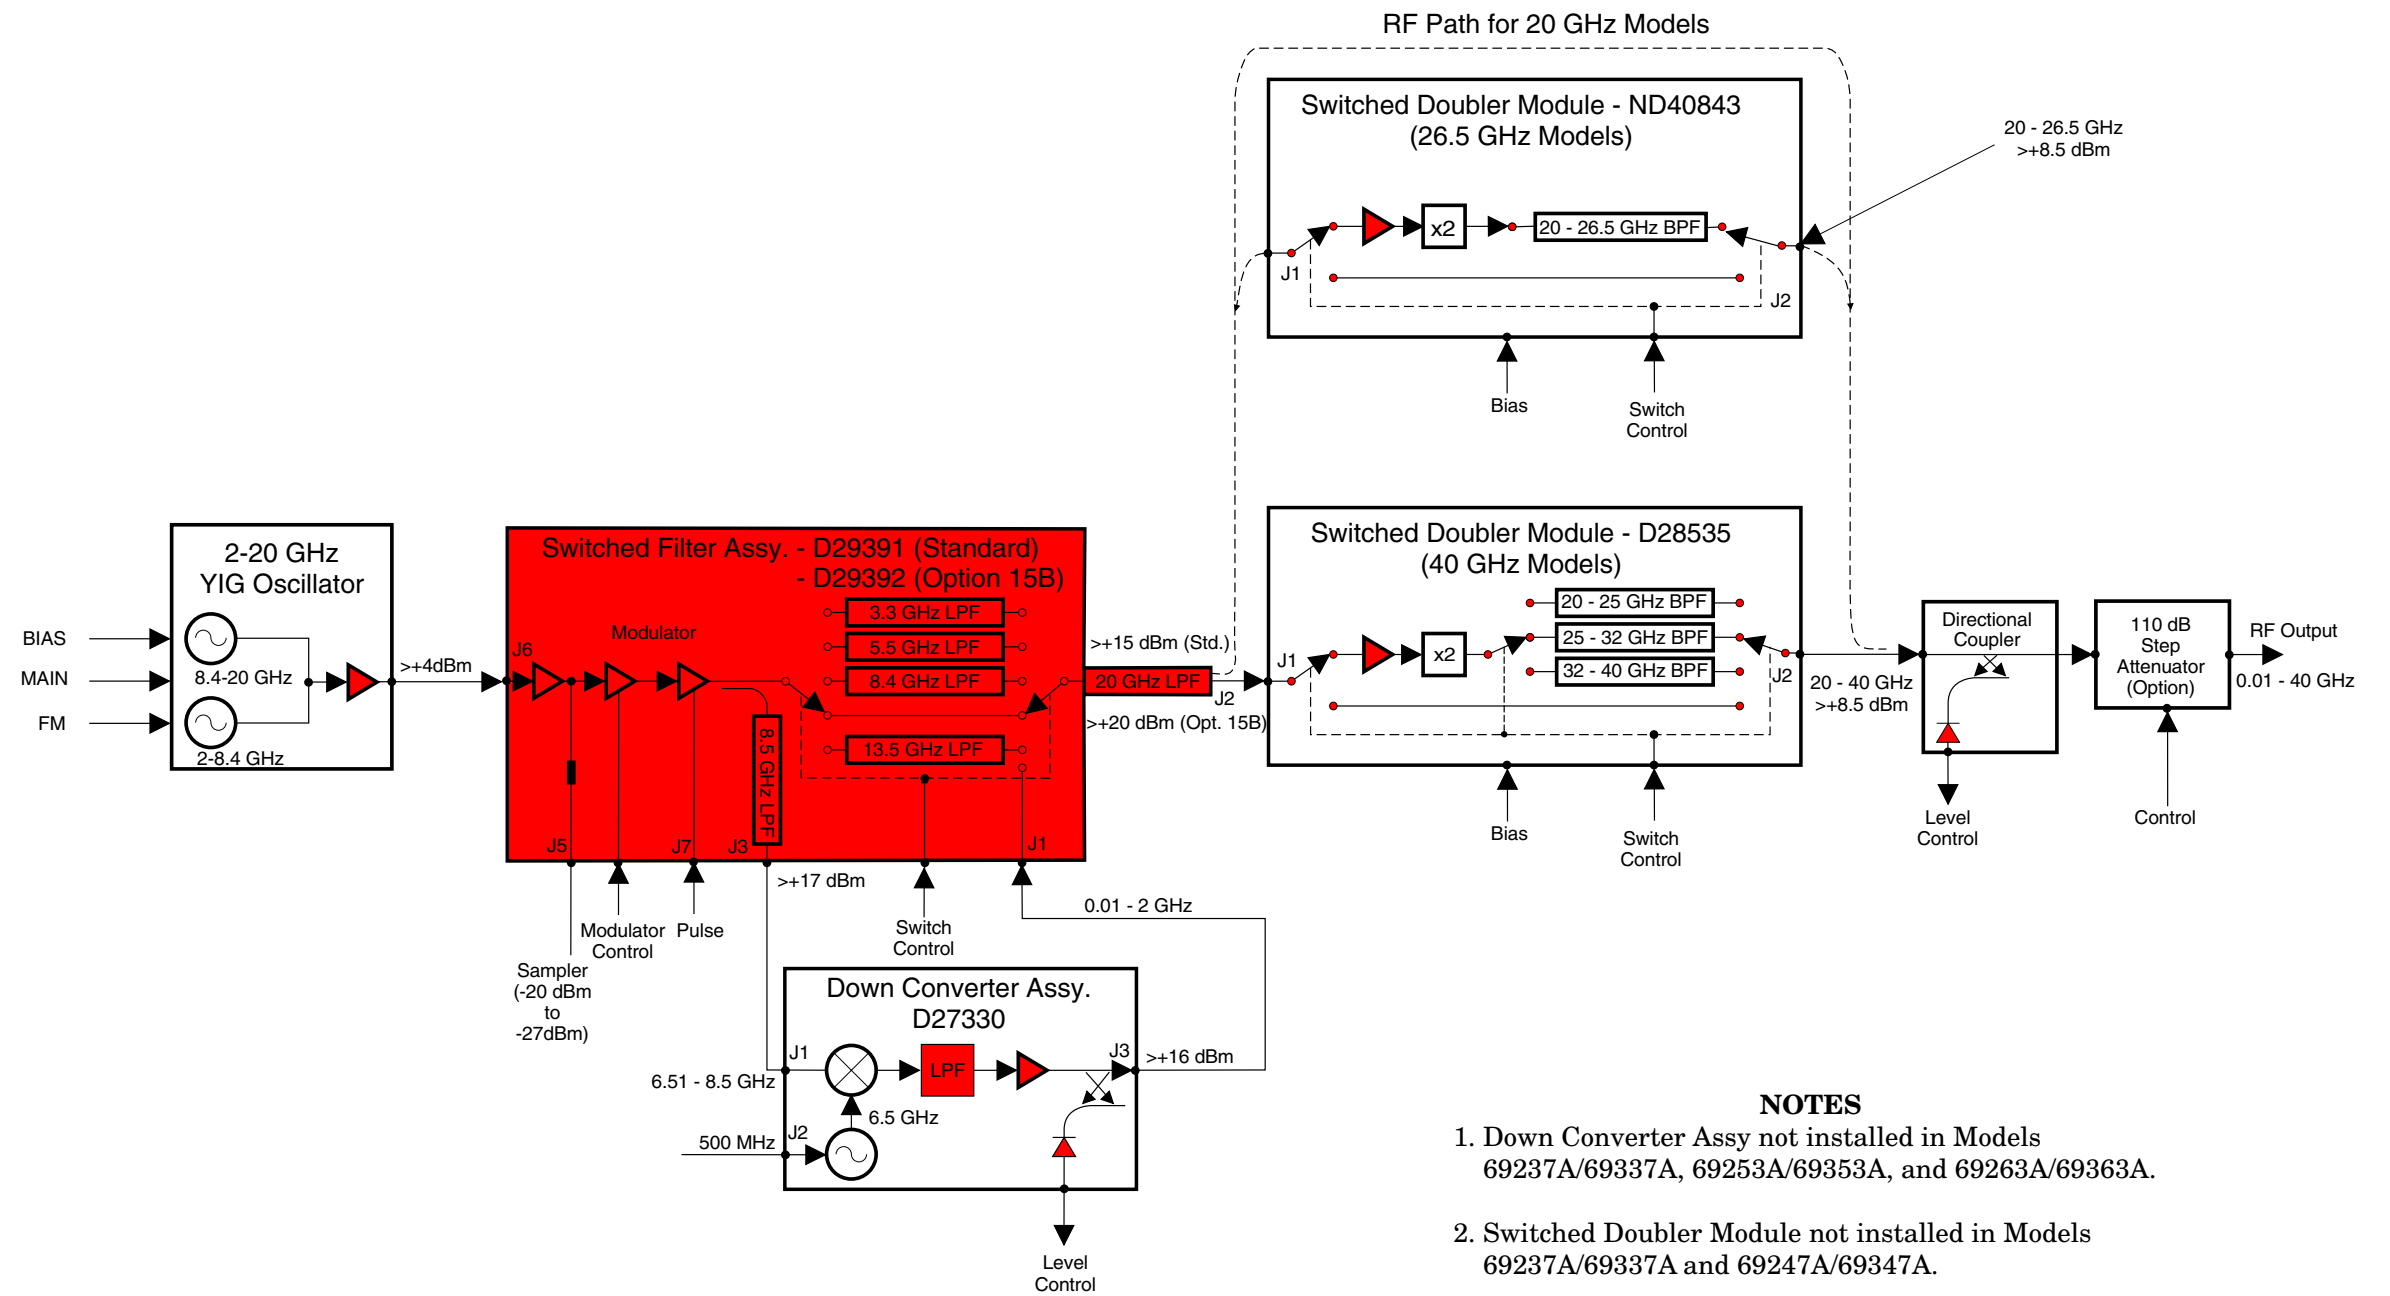

Figure 2-4. Block Diagram of the RF Deck Assembly for all ≤40 GHz Models (except 692X5A/693X5A Models)
- ❑ Figure 2-4, page 2-21, is a block diagram of the RF deck assembly for all ≤ 40 GHz models except for 692X5A/693X5A models.
The block diagram of the RF deck shown in Figure 2-4 (page 2-21) includes all of the common RF components found in the 692XXA/693XXA RF deck assemblies. Refer to this block diagram during the descriptions of RF deck operation presented in the following paragraphs.
The 0.01 to 2 GHz Down Converter assembly (Figures 2-4 and 2-5) contains a 6.5 GHz VCO that is phase-locked to the 500 MHz reference signal from the A3 Reference Loop PCB. The 6.5 GHz VCO's phase-lock condition is monitored by the CPU. The 6.5 GHz VCO is on at all times; however, the down converter amplifier is powered on by the A13 YIG Driver PCB only when the 0.01 to 2 GHz frequency range is selected.